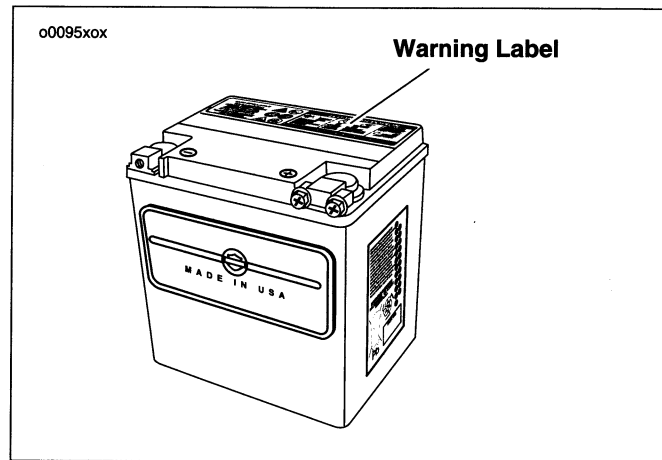

Figure 41. Battery
See Figure 41. All Harley-Davidson batteries are permanently sealed, maintenance-free, lead/calcium and sulfuric acid batteries. The batteries are shipped pre-charged and ready to be put into service. **Do NOT attempt to open these batteries for any reason.**
- See Figure 41. A warning label is attached to the top of the battery. Never remove the warning label from the battery.